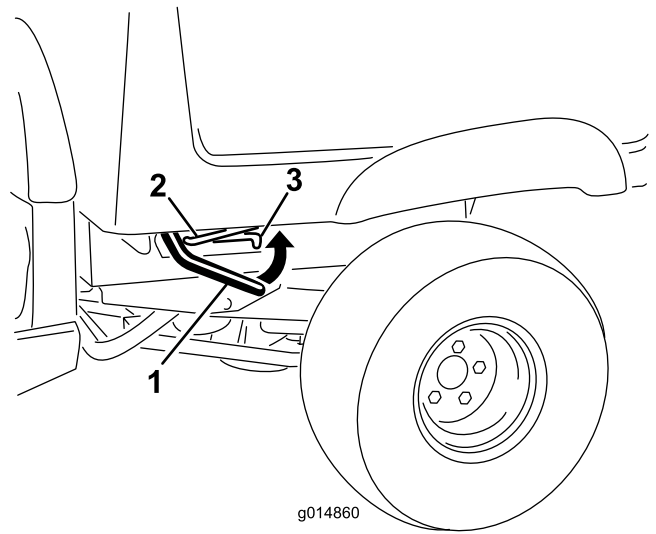

Figure 10
1. Lift the latch lever that is at the either side near the forward corner of the cargo box, and lift the box up (Figure 10).
2. Secure the cargo box by pulling the prop rod into the rear detent at end of the slot that is in the left frame of the machine (Figure 10).
1. Raise the cargo box slightly by lifting up on the latch lever (Figure 10).
2. Pull the prop rod out of the detent slot (Figure 10).
3. Lower the box until it latches into securely (Figure 10).